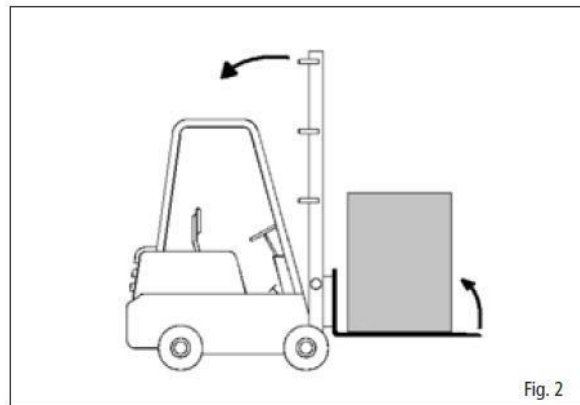

Fig. 2
- Do not tilt the unit more than 15 degrees during transportation (Fig. 2).